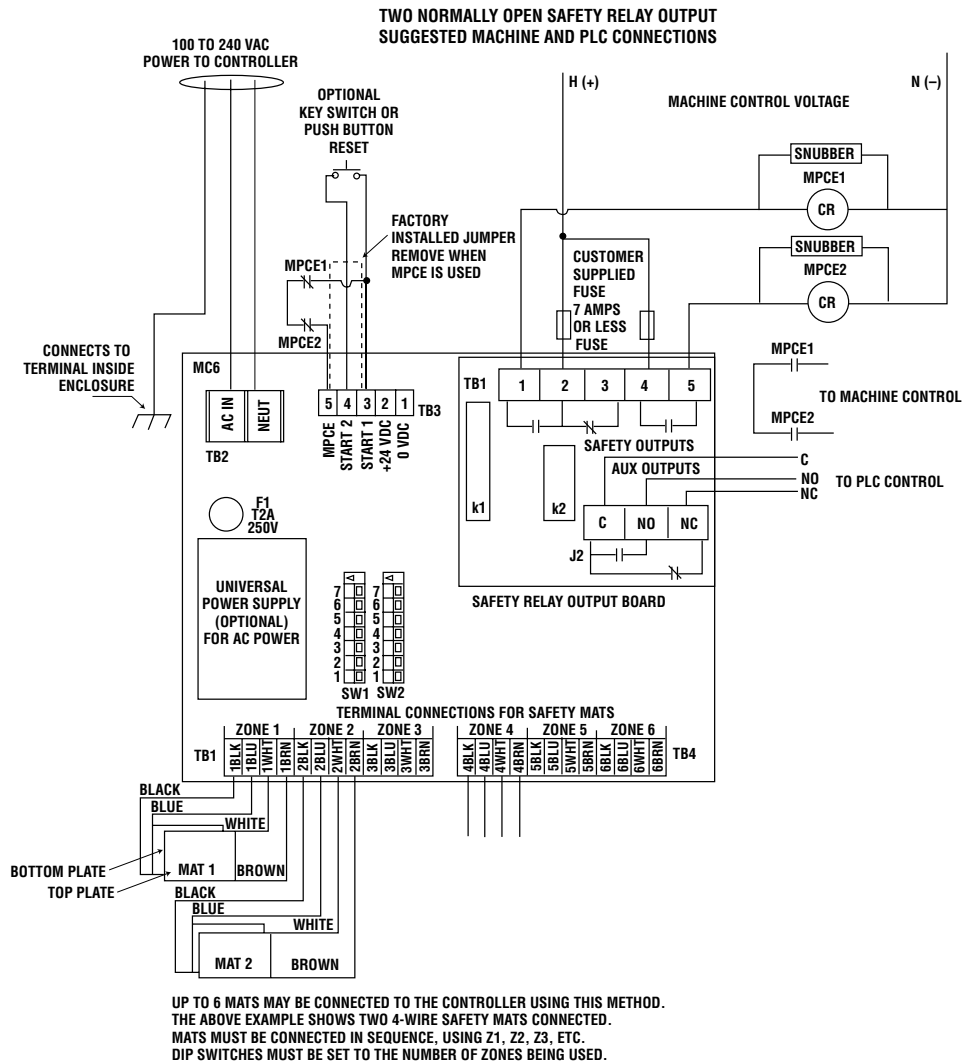
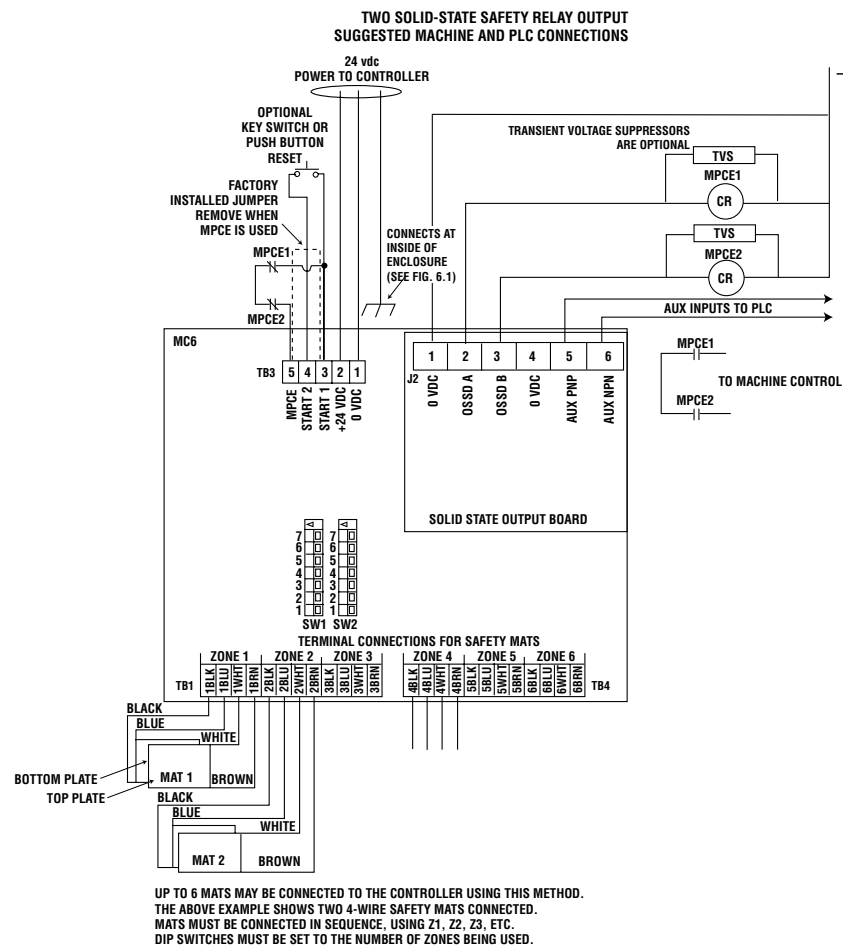

Figure 6-1 Two Normally Open Preferred Connection
Figure 6-2 Suggested Solid State Connection
Connect the remote start switch between terminals start 1 and start 2, on TB3 (See *Figure 6-1* and *Figure 6-2*).
Connect the wiring from the circuit to be monitored to start 1 and MPCE on the controller terminal block TB3 (See *Figure 6-1* and *Figure 6-2*).
At least one Omron STI 4-wire mat must be connected. For an Omron STI Universal safety mat the blue and black conductors are connected to the bottom electrode plate. The brown and white conductors are connected to the top electrode plate. For a single mat installation the black and blue conductors are connected to 1 BLK and 1 BLU, The brown and white conductors are connected to 1 BRN and 1 WHT. See “Figure 6.1 and 6.2 Connection Diagrams”.
The two safety outputs must be connected to the two MPCE's of the guarded machine, one to each. See *Figure 6-1* and *Figure 6-2*. The relay version offers two normally open (NO) safety outputs for this purpose. One normally closed (NC) safety output may be used as an auxiliary control input. The solid-state version offers 2 current sourcing outputs (PNP). The solid-state version is compatible with Omron STI's RM4 module and could be used as 1 input device to the RM4. The customer shall wire the system using industry accepted methods. For relay outputs, external over-current protection must be provided by the user.
The following connection scheme uses both of the normally open output relay contacts to control the machine. This is the Omron STI recommended wiring method. See "Figure 6-1 Two Normally Open Preferred Connection" on page 13.
Figure 6-2 shows the MC6 solid-state output version connections. The solid-state safety outputs are current sources that directly power the MPCE relay coils.